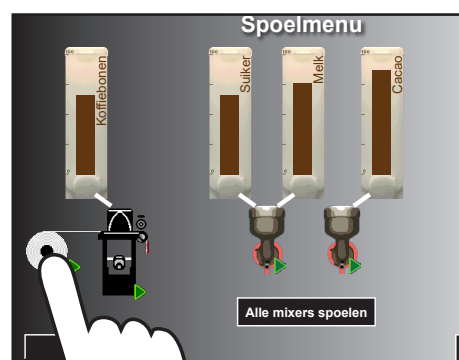

Figure 71. Press filter paper in the Rinse menu
5. In the Rinse menu, press on the roll with filter paper (see Figure 71). The brewer mixing bowl will raise up.
13. In the Rinse menu, press on the roll with filter paper again. The brewer mixing bowl will come back down and sandwich the filter paper. (see Figure 71).